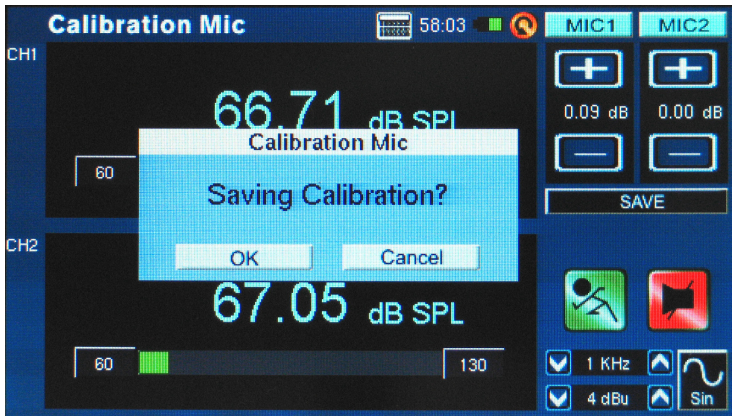

figure 71
- 5. Press the SAVE button to complete the calibration (the PAA6 will restart in this case) or the BACK button to exit without saving. (figure 71 shows the saving calibration confirmation screen)